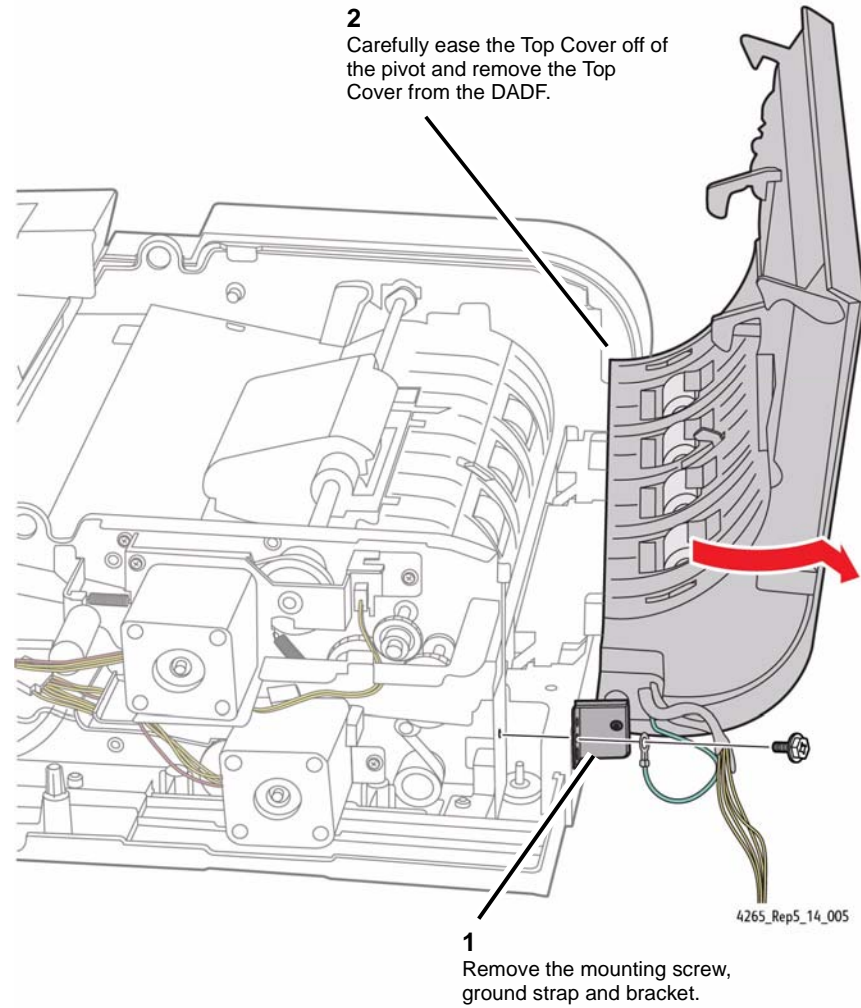

Figure 5 Removing the Top Cover
7. Remove the Top Cover (Figure 5).